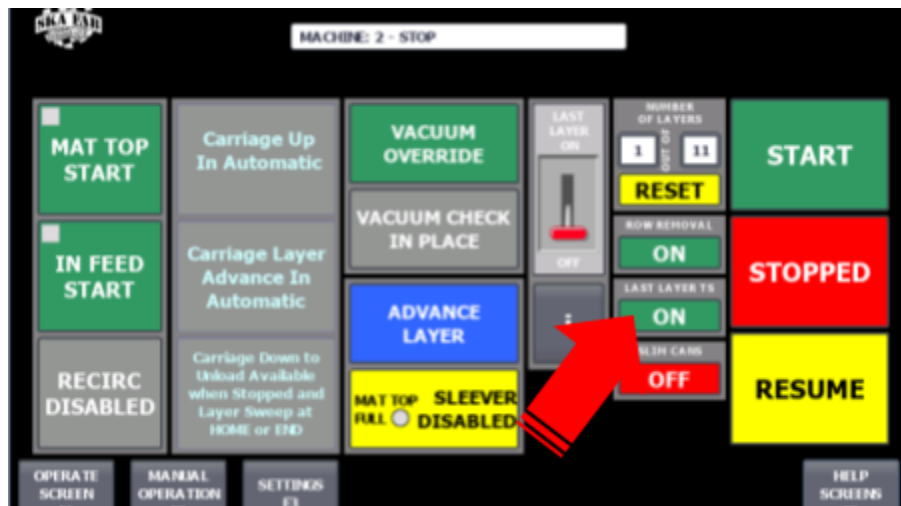

Fig. 20: HMI Screen – LAST LAYER TS Button
1. Some operators prefer to place a tier sheet on the top of the completed pallet automatically; others prefer to manually place the top tier sheet outside of the machine to reduce cycle time. The LAST LAYER TS button on the Operate Screen, shown in Fig. 20, controls whether a tier sheet is placed on top of a completed pallet or not.